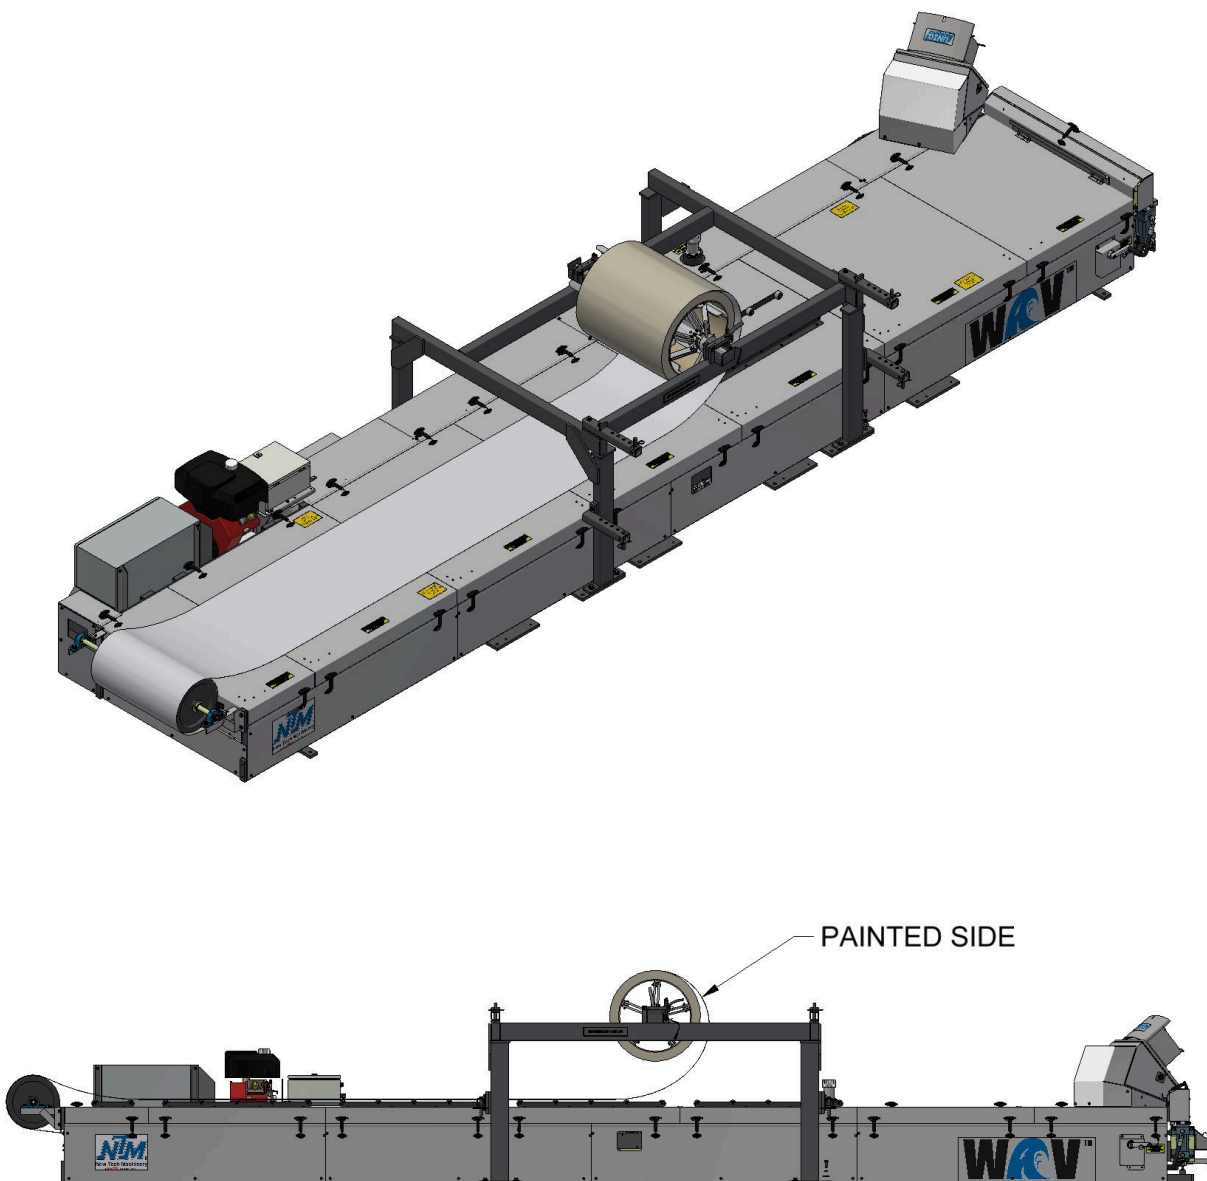

Figure 16: Material Routing
2. Using an approved lifting device, lift the reeled coil into the cradles on the reel stand making sure that the tail of the coil is in the correct position (Figure 16) then remove the lifting device.